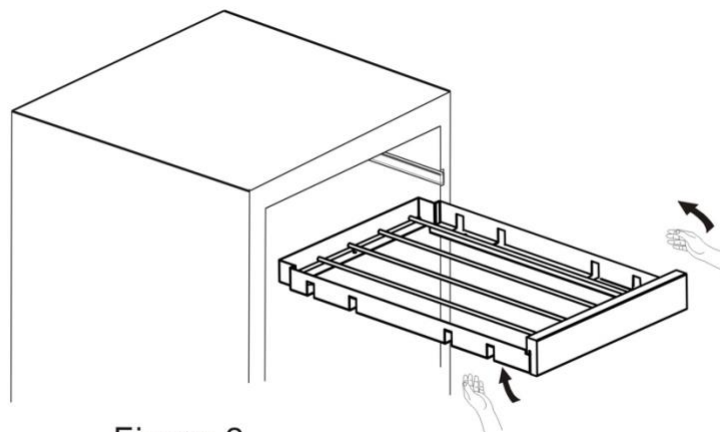

Figure 2
1. Gently push the rack into sliders. (See figure 2)